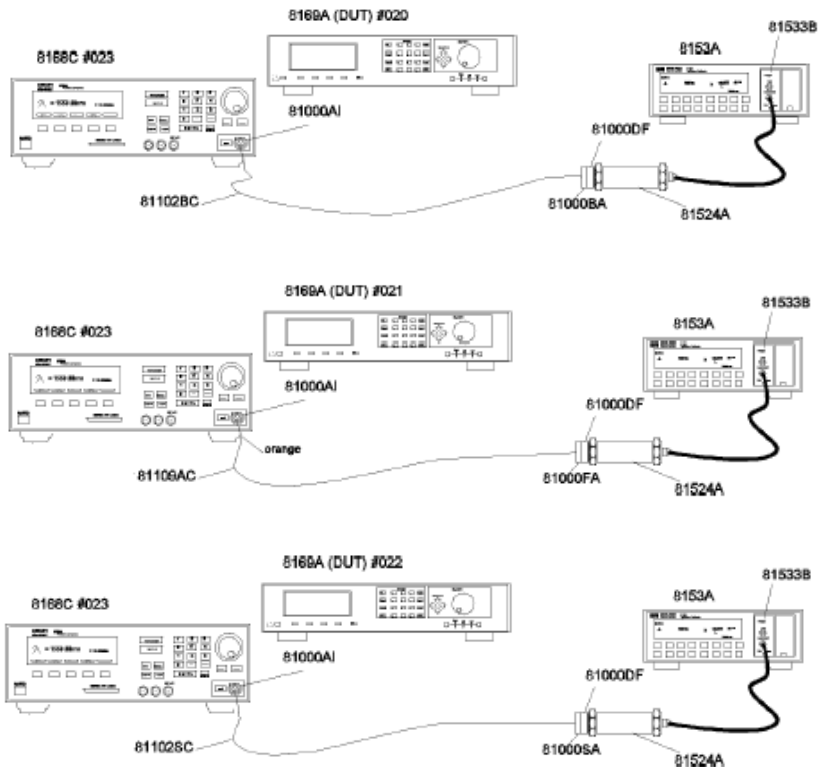

Figure 26 Test Setup for Measuring the Reference Power If you're testing an option #020 you need to cut the spliced patchcords first
- 8 Repeat list item 6 to list item 7 for the wavelengths between 1480 to 1570 nm in steps of 10 nm, always setting the 8168C and the 8153A to the required wavelength for each setting.
- 9 Repeat list item 6 to list item 7 again for 1470 nm to ensure stability of measurement setup. If your measured value is more than .01dB off the previous value, you need to fix your setup and repeat list item 3 to list item 8.
- 10 Connect the 8168C's output to the 81524A Optical Head as shown in **Figure 26**